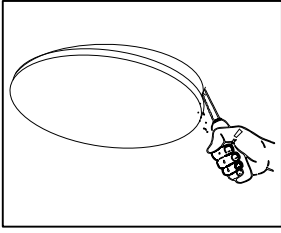

fig. 1
2. Cut an opening in the ceiling (use a hand saw, hole saw, etc.) using the provided template (fig. 1).